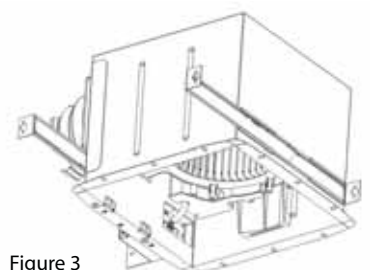

Figure 3
2. Remove the electrical box cover and install the 3 brackets on the fan housing. (Figure 3)